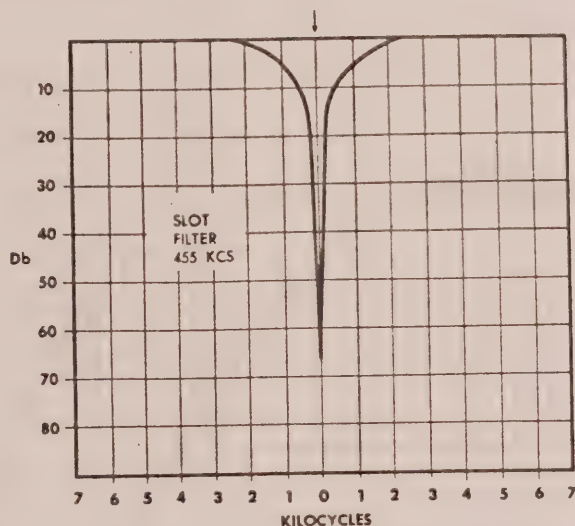

Figure 6. Slot Filter Response Curve
*** The Slot Frequency control provides an extremely sharp adjustable slot or hole in the selectivity curve (see Figure 6). It is normally located outside of the passband of the 2nd IF (455 Kcs). It is brought into the passband for the purpose of eliminating interference from heterodyne signals on AM and monkey chatter on SSB. On CW Reception, the slot filter will materially aid in reducing or eliminating adjacent or co-channel interference.